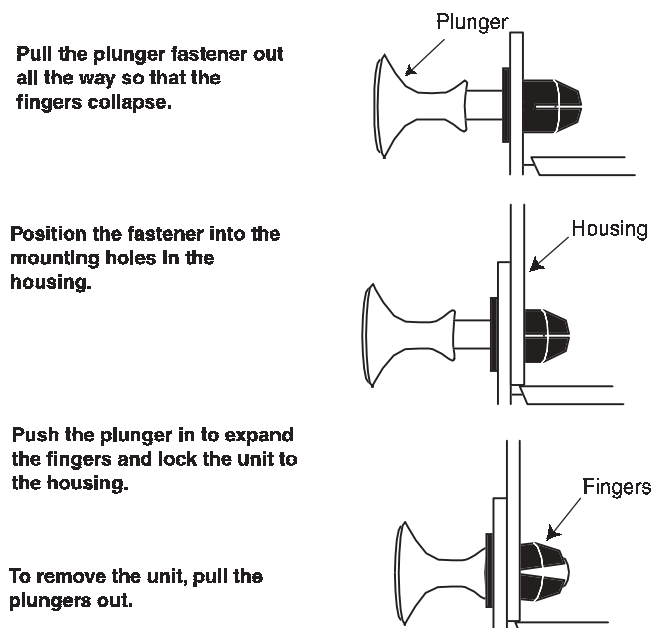

Figure 14
10.5 Remove the blank panels from the unit. Install the connector panels into the connector support bracket (Figure 14).